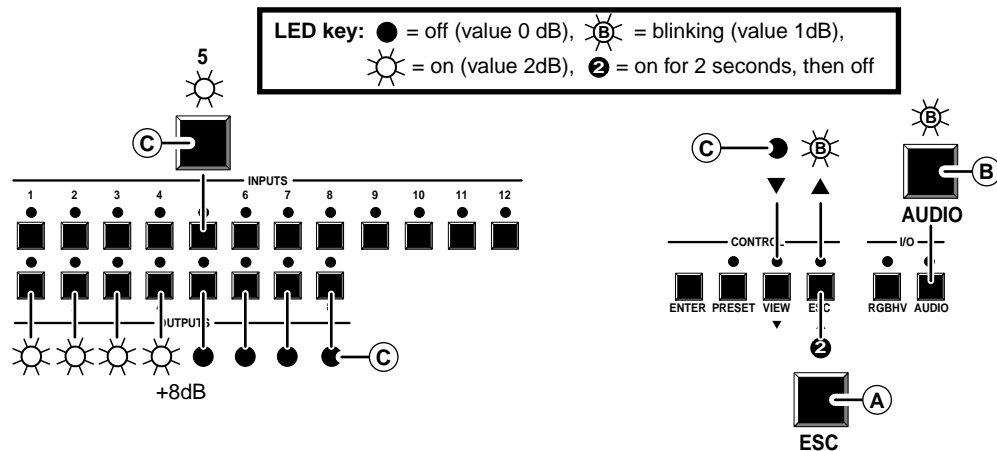
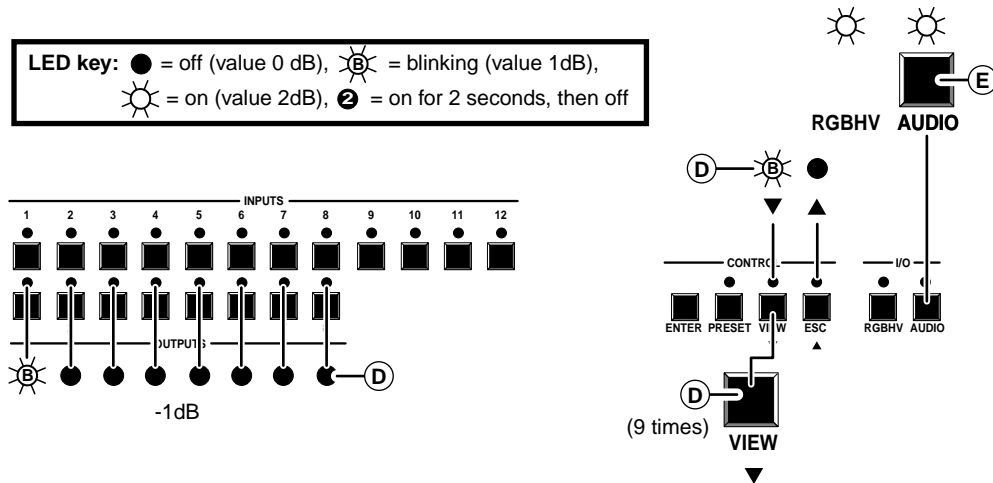
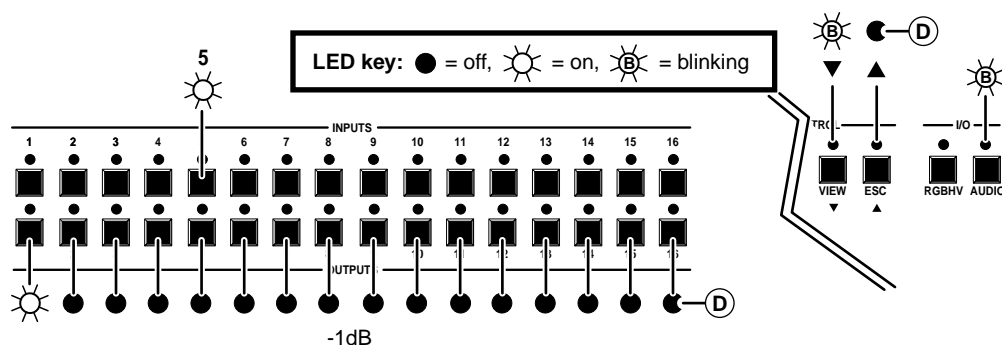

Figure 3-14 — Example 7: Viewing the audio level, CrossPoint 84, 88, 124, and 128
Figure 3-16 — Example 7d: Adjusting the audio level, CrossPoint 84, 88, 124, and 128
Figure 3-17 — -1dB displayed, CrossPoint 168 and CrossPoint 1616
See figure 3-14, figure 3-16, and the following steps for an example of viewing and adjusting the audio level. Audio gain and attenuation is displayed differently on the CrossPoint 168 and 1616, but the steps for displaying the value are the same. For this reason, figure 3-15 and figure 3-17 show the indications displayed on the CrossPoint 168 and 1616 without duplicating all of the actions shown in figure 3-14 and figure 3-16.
Figure 3-14 and figure 3-15 show an audio level of +8dB displayed in the output LEDs on the two different CrossPoint front panels.
- (D) Press and release the View (▼) button once to decrease the audio level displayed in the output LEDs by 1dB. Press and release the View (▼) button several more times to decrease the audio level displayed in the output LEDs by an additional 1dB per button push. Note the output LED, View LED, and Esc LED changes that occur each time the View (▼) button is pressed and released. Figure 3-16 and figure 3-17 show the result of pressing the View (▼) button a total of 9 times. Both figures show an audio level of -1dB. Note that the Esc (▲) LED has turned off and that the View (▼) LED is blinking to indicate a negative level.